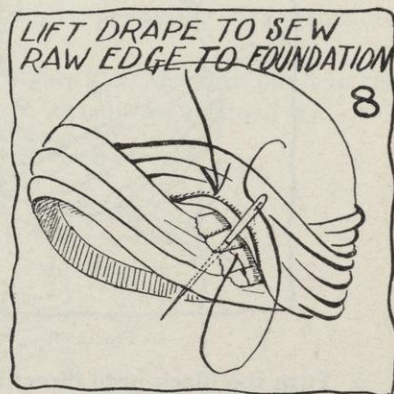

FIG. 8.
- Where each strip starts, unpin the drapery that covers the ends, so that you can sew each end firmly to the foundation—see Figure 8.